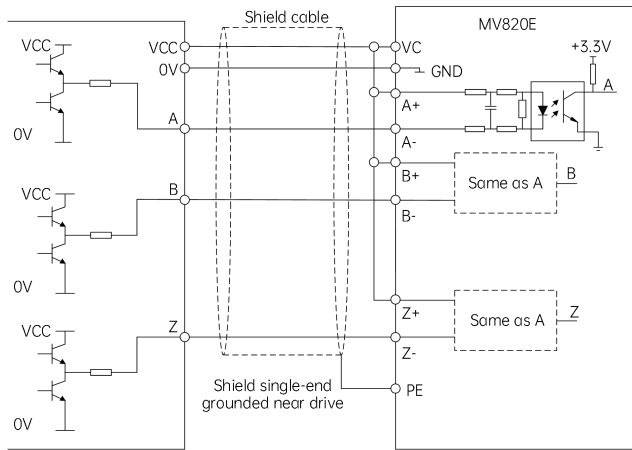

Fig. 4-21 Wiring diagram for push-pull PG
(2) When the PG output signal is a push-pull signal, the wiring with the interface board is as shown in Fig. 4-21: